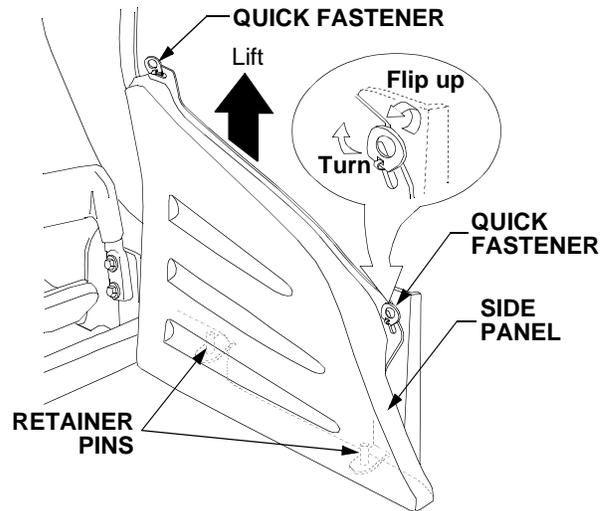

Figure 35
- Flip the tabs of the two quick release fasteners up and turn to align with the slots in the side panel. See Figure 35.
- Align the two holes in the bottom of the side panel with the retainer pins and slide the panel onto the pins. See Figure 35